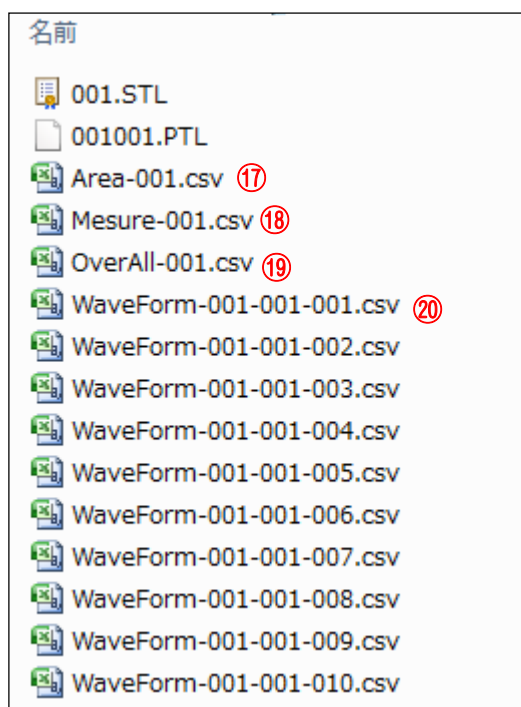

Fig. 4-13 Data copied in PC
- ※ The data copied in the PC is shown in Fig.4-13.
- [Area-\*\*\*.csv] ⑪ is the csv file to make a drawing of a map of the strength distribution based on the data measured in area mode. The mean score of the measured data is written in the 128-by-128 cells.
- In [Measure-\*\*\*.csv] ⑫, the mean scores of the index value, Index value and Status value are recorded in order of measurement.
- In [Over-All-\*\*\*.csv] ⑱, all data about the measurement time, measuring point and the number of times of measurement are recorded.
- The data of waveform is recorded as the value of AD conversion directly in [WaveForm-aaa-bbb-ccc.csv] ⑳ where aaa is X axial location, bbb is Y axial location and ccc is measurement number.